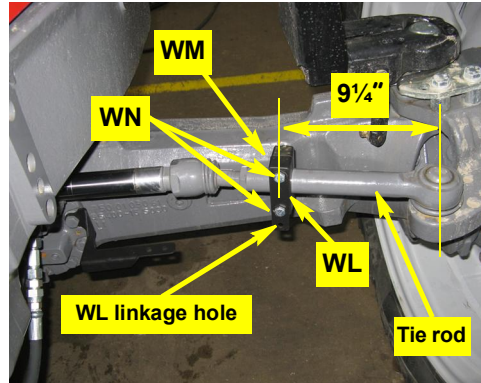

Figure 2b: Installed WAS clamp and bracket
b. Using hardware **WN**, attach the plastic clamp **WM** and the bracket **WL** to the tie rod with **WL**'s linkage hole at the bottom (Figure 2b). Set the center of the bracket $9\frac{1}{4}$ " from the center of the tie rod end (Figure 2b).